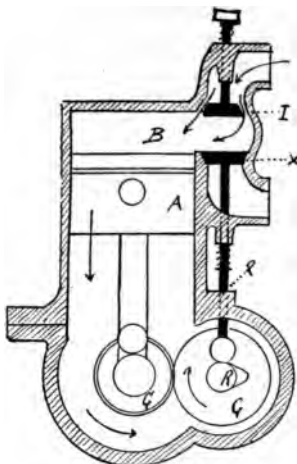
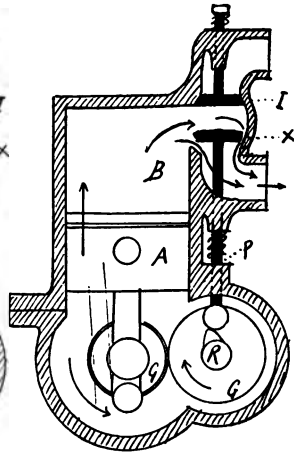

Fig. 5
Fig. 8
The operation of a simple four-stroke motor is shown in Figs. 5, 6, 7, 8.
In Fig. 5 the piston (A) is shown at the top of the stroke, with the inlet-valve (I) beginning to open.
to the open air by the ascending piston, as shown in Fig. 8, until the piston reaches the limit of the stroke, when the exhaust-valve (X) closes and the inlet (I) opens and the operation begins all over again, as shown in Fig. 5.